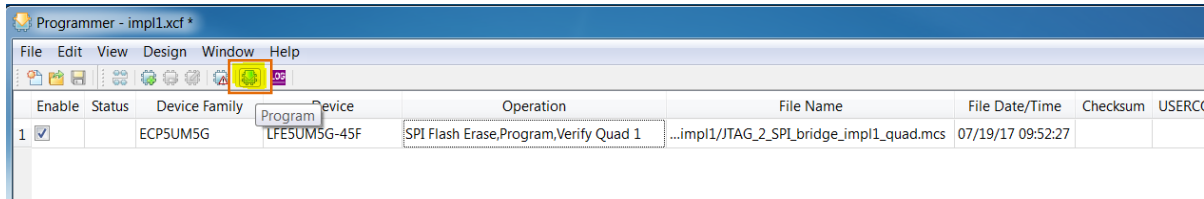
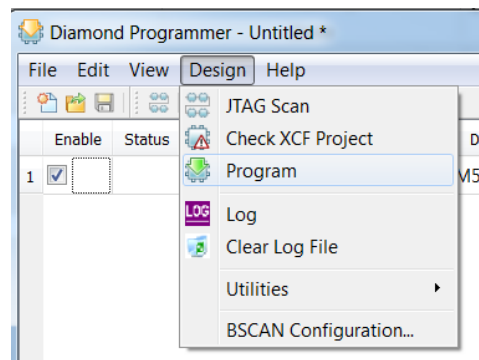

Figure 6.3. Program Button on Main Interface
Figure 6.4. Program Button in Design Menu Options
4. To program the SPI Flash, click the **Program** button either from the main interface as shown in Figure 6.3 or from the **Design** menu options as shown in Figure 6.4.